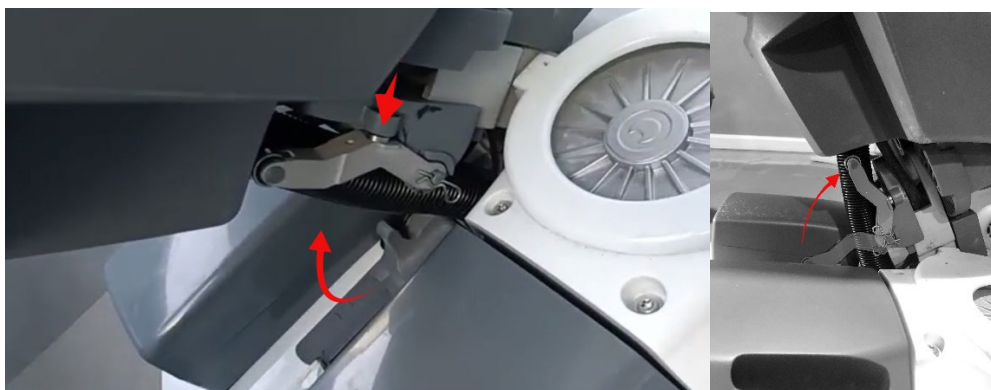

Figure 20A: bringing back in position before parking the unit.
- \* put the arm always back at storage position before parking the unit. (figure 20A).